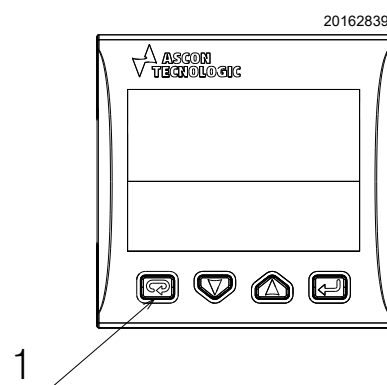

Fig. 164
The burner is equipped with a temperature control device 27)(Fig. 7 on page 13) - (Fig. 164) which, by means of a thermocouple, controls the temperature inside the combustion head to prevent damage to the combustion head.
- reset the alarm condition by pressing the button 1)(Fig. 164) on the temperature control;